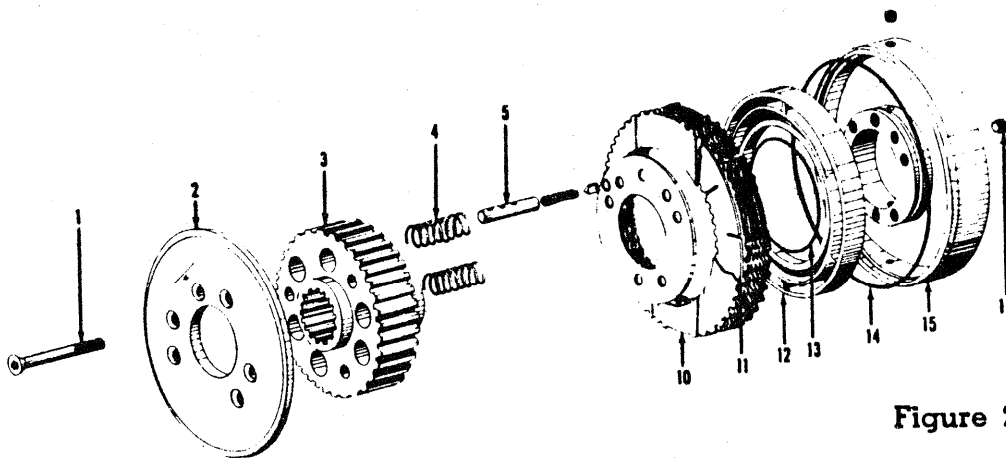

Figure 23
1. Remove the allen head set screws (17) Figure 23.
2. Turn clutch over and remove flat head capscrews (1), remove end plate (2) Figure 23, exposing the clutch discs (10) and return springs (4).
3. Lift discs (10) and separator plates (11) from the drive hub (3).
4. Lift drive hub (3) and clutch piston (12) from retainer plate (15).